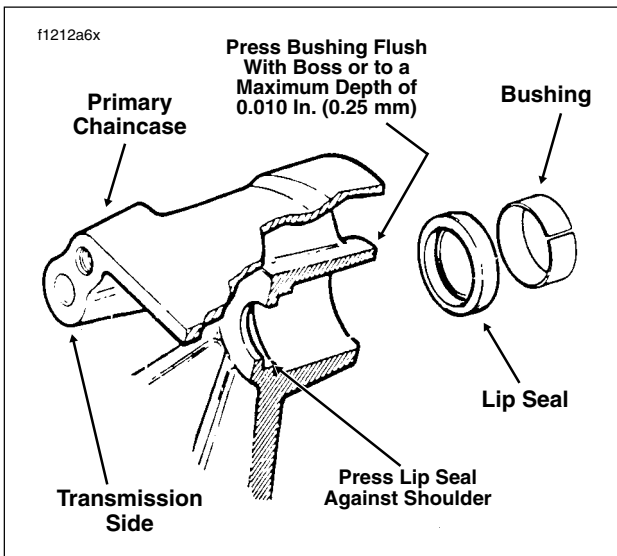

Figure 6-36. Install Jackshaft Seal and Bushing in Primary Chaincase
3. See Figure 6-36. Press **new** bushing into bore. Bushing must be flush with boss or at a depth not exceeding 0.010 in. (0.76 mm).